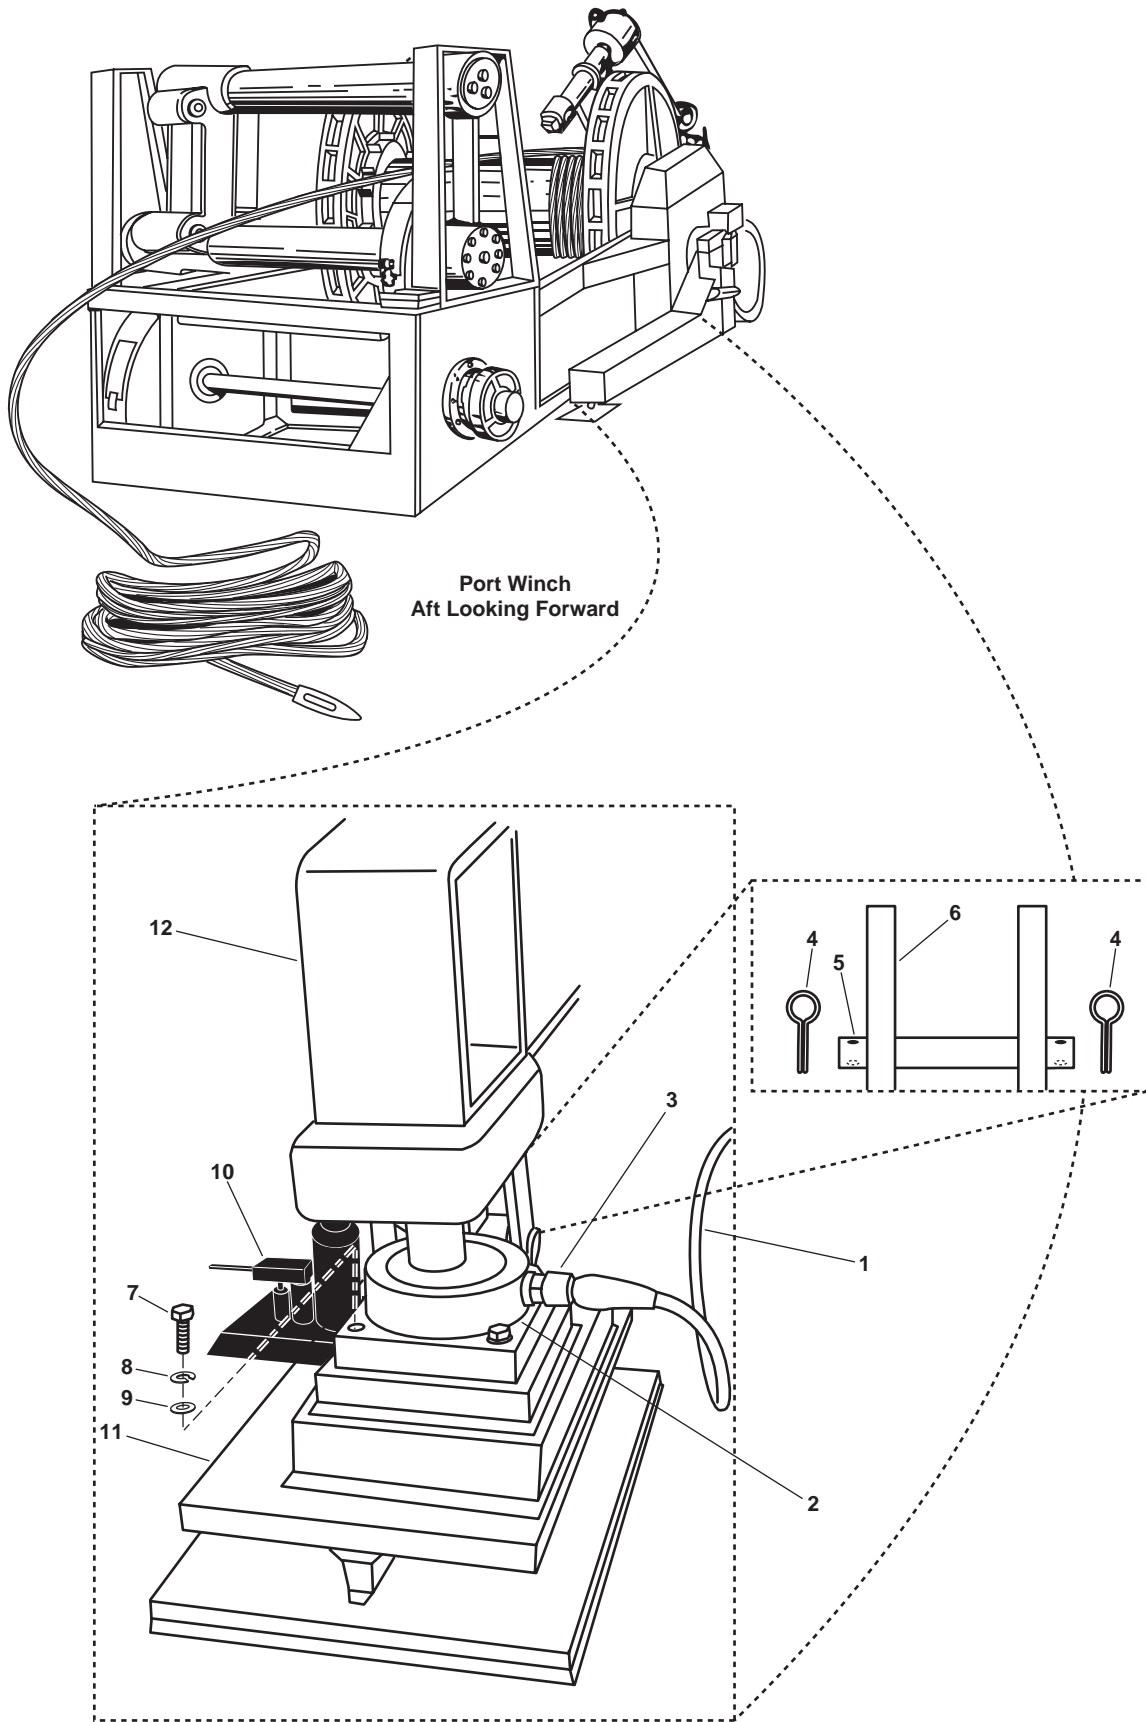

Figure 6. Replace Load Cell
5. Label and disconnect the electrical wiring (figure 6, item 1) from the load cell (figure 6, item 2) by loosening the cable connecting nut (figure 6, item 3).
6. Remove the two cotter pins (figure 6, item 4) from the clevis pin (figure 6, item 5). Discard the cotter pins.
7. Remove the clevis pin (figure 6, item 5) from the bracket (figure 6, item 6).
8. Remove the four bolts (figure 6, item 7), four lockwashers (figure 6, item 8), and four flat washers (figure 6, item 9) from the load cell (figure 6, item 2). Discard the lockwashers.
9. Place a hydraulic jack (figure 6, item 10) on the load cell mounting base (figure 6, item 11) and raise the torque assembly arm (figure 6, item 12) enough to slide out the load cell (figure 6, item 2).
10. Remove the hydraulic jack (figure 6, item 10).
1. Place a hydraulic jack (figure 6, item 10) on the load cell mounting base (figure 6, item 11) and raise the torque assembly arm (figure 6, item 12) enough to slide the load cell (figure 6, item 2) into place.
2. Install the four bolts (figure 6, item 7), four new lockwashers (figure 6, item 8), and four flat washers (figure 6, item 9) in the load cell (figure 6, item 2). Bolt tension for the load cell plates shall be provided by the turn of the nut method as follows:
3. Install the clevis pin (figure 6, item 5) into the bracket (figure 6, item 6).
4. Install two new cotter pins (figure 6, item 4) in the clevis pin (figure 6, item 5).
5. Remove the hydraulic jack (figure 6, item 10).
6. Connect the electrical wiring (figure 6, item 1) to the load cell (figure 6, item 2) using the labels from step 5 of Removal as a guide and tighten the cable connecting nut (figure 6, item 3). Remove the labels.